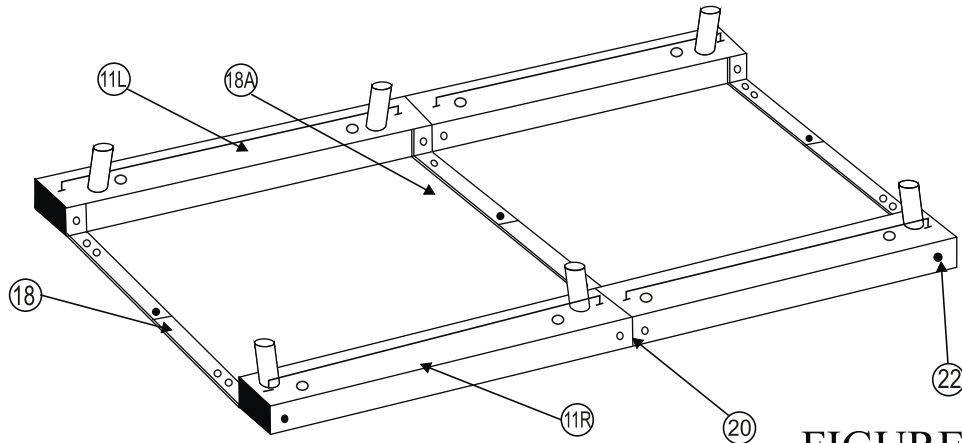

FIGURE 1
Step 1: Using one Connecting Square Tube (#20) attach the Right Base (#11R), then using the other Connecting Square Tube (#20) attach the Left Base (#11L) See Figure 1.
Step 2: Using the two Base Connecting Brackets (#18) attach Right Base (#11R) and Left Base (#11L) See Figure 1.
Step 3: Using the two Base Connecting Brackets (#18A) attach Right Base (#11R) and Left Base (#11L) See Figure 1.